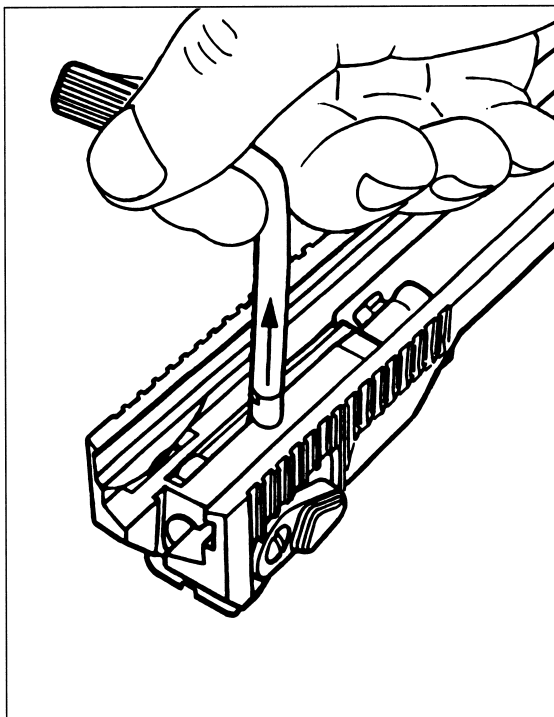

fig. 17
4. Hold the slide upside down and push back with your thumb. Now remove the bolt guide pin with the combination tool (fig. 17).